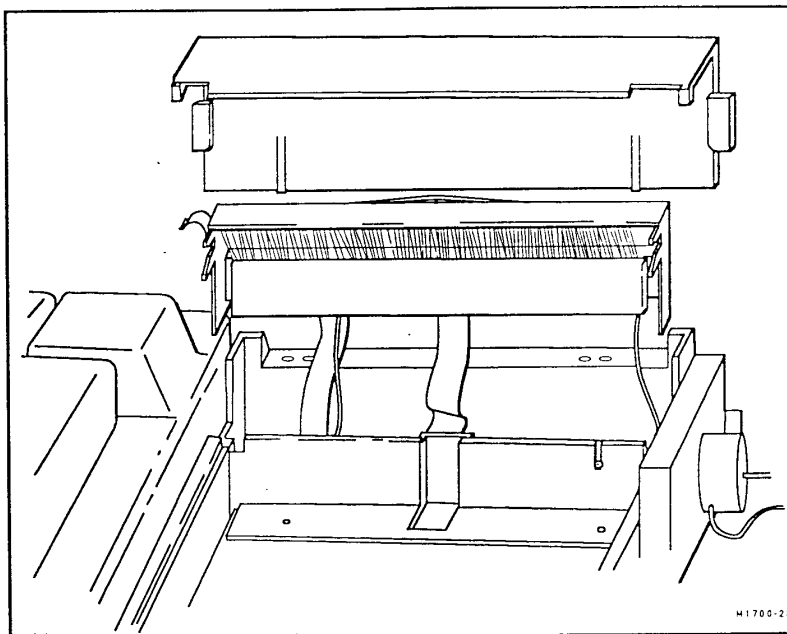

Figure 7-15. Removing the Printhead Cover and Printhead:
4. Remove the printhead cover as shown in Figure 7-15.